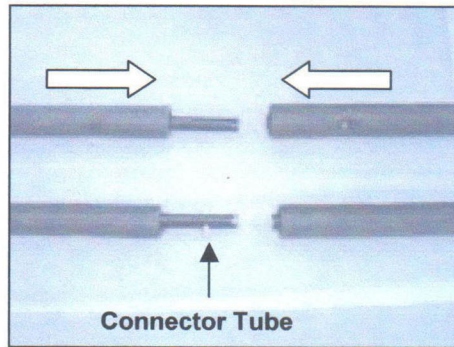

Figure 9
9. Locate (2) Connection Tubes (**S**), Left and Right Bow Assembly (**Q**) and lay them on a flat clean surface and identify the Front and the Rear Bow. **NOTE:** The Front Bow has one pin on each side.
10. Assemble the two halves of the Bow Assembly using the included Connection Tubes with push buttons (Figure 9) **NOTE:** It may be helpful to use a screw flat driver to push down the buttons while sliding Bow halves together. Also, it may be helpful for two persons to slide both sides of the Bow Assembly forward simultaneously.